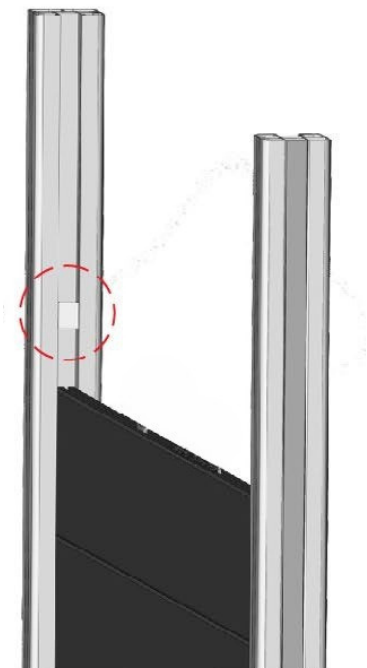

Figure 1
- Slide boards (A) into post channels.
- **MID TRELLIS + OPEN TRELLIS (Fig 1)**
- Between all or selected boards, slide or click Side Spacer (I) on either side of fence board.